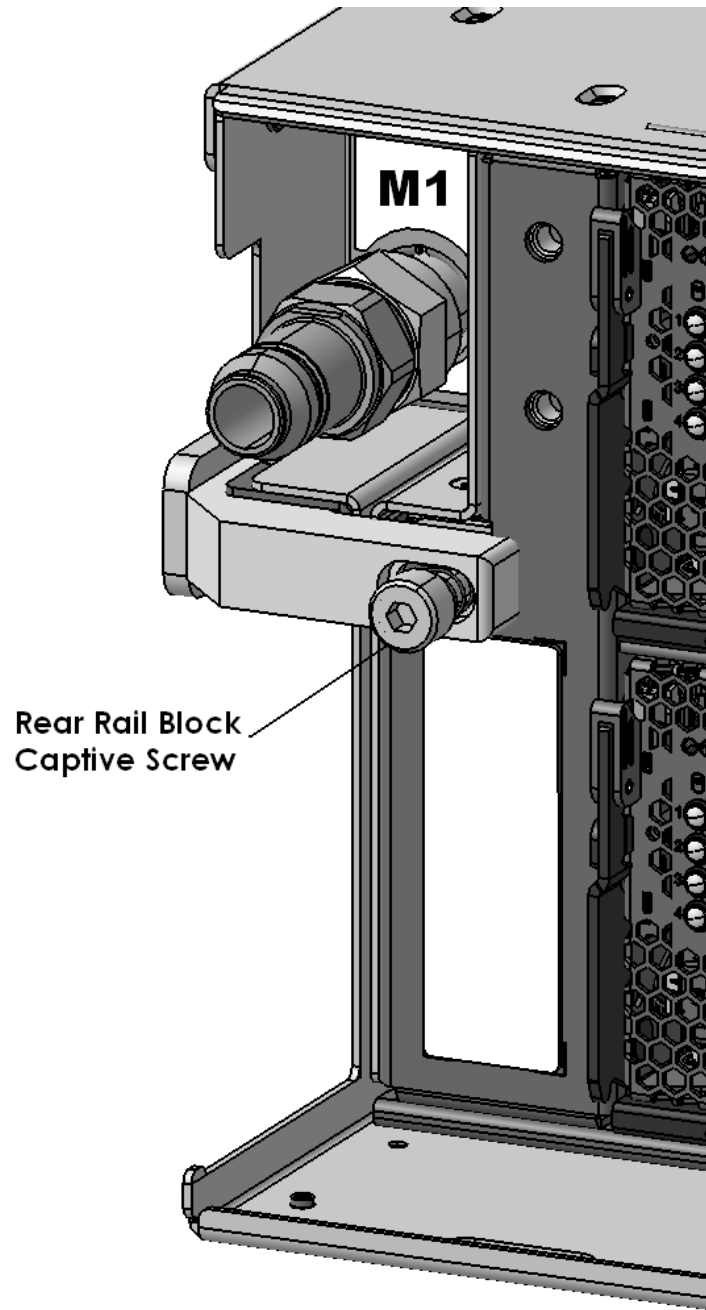

Figure 23: Disk Enclosure Rear Rail Block Captive Screws
STEP 25 Locate the two Rear Rail Block Captive Allen head screws (one on the left side and one on the right side of the DE) which hold the Rear Rail Block to the Rack Slide-Rails (see Figure 23).